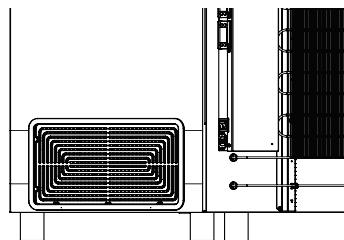

fig. 10
**IMPORTANT!** There must be free access to the ventilation grille (fig.10).